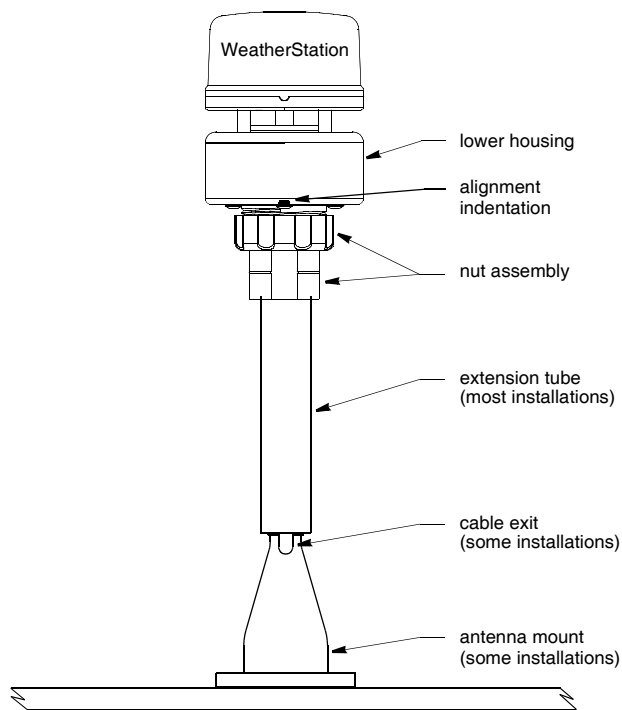

Figure 4. Installation (150WX shown)
2. Position the mounting hardware at a 90° angle to the mounting surface. If necessary, use shims to make the mounting surface level (see Figure 4).
6. Screw an extension tube onto the antenna mount if desired (see Figure 4).
4. To accurately measure the wind direction, be sure to orient the alignment indentation correctly. Grasp the lower housing of the WeatherStation Instrument below the reflector plate and hold it in the proper position (see Figure 4).
5. Slide the captive nut upward and screw it onto the lower housing of the WeatherStation Instrument (see Figures 4 and 5). **Hand tighten** only. Do not over-tighten. *Be careful not to rotate the WeatherStation Instrument changing the alignment or loosen the nut assembly from the antenna mount/extension tube.*